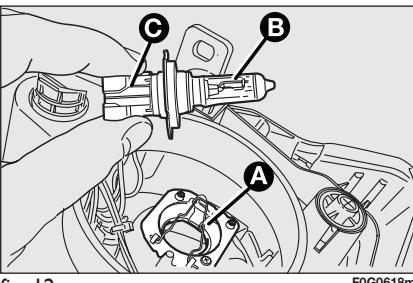

fig. 12
- disconnect the connector **C**-fig. 12;
- remove the bulb holder **A**-fig. 12;